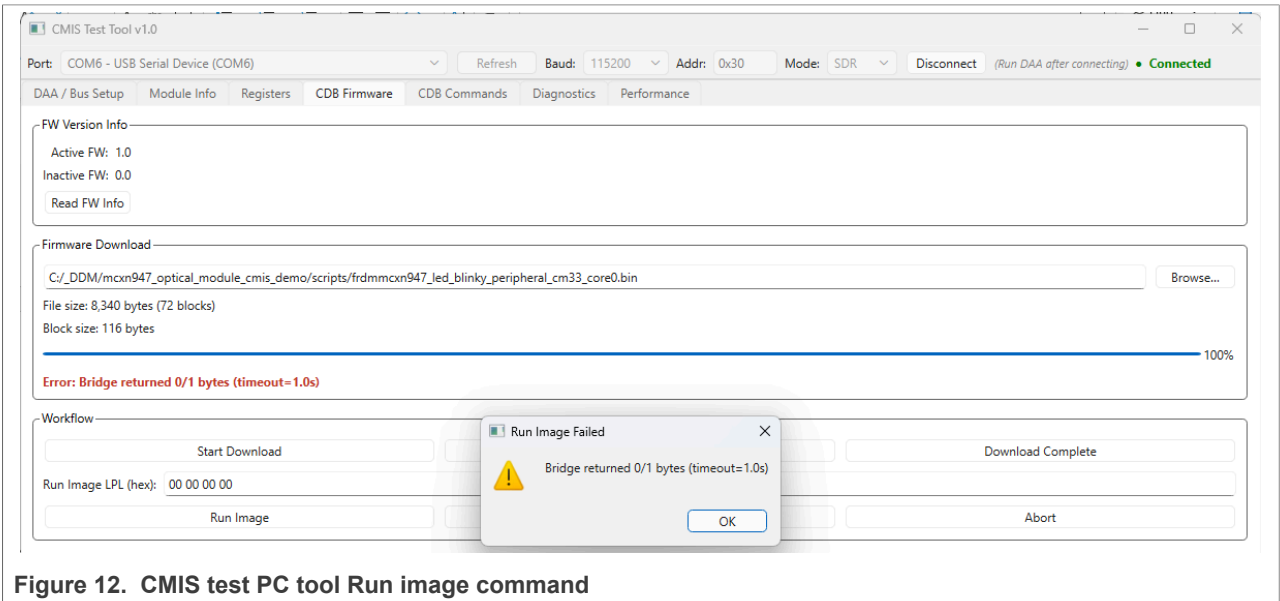

Figure 12. CMIS test PC tool Run image command
10. Execute the new firmware by clicking **Run Image** to make the device run to the updated firmware. A temporary message such as **Error: Bridge returned 0/1 bytes (timeout = 1.0 s)** can appear due to the device reset occurring during execution, which is expected behavior, as shown in Figure 12.